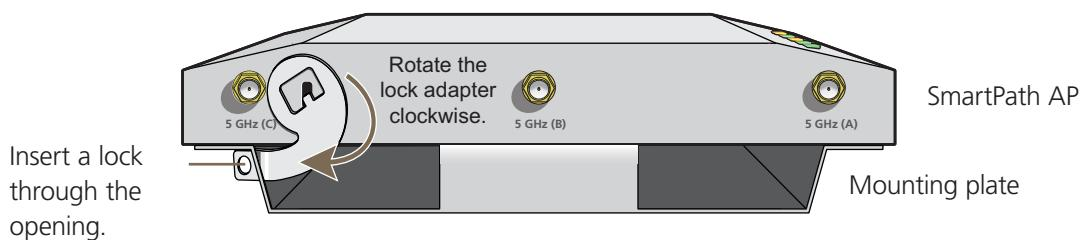

Figure 3-14. Locking the SmartPath AP to the mounting plate.
1. Insert the T-shaped extension on the adapter into the device lock slot, and rotate it clockwise so that the curved section extends through the slot in the mounting plate (see Figure 3-14).